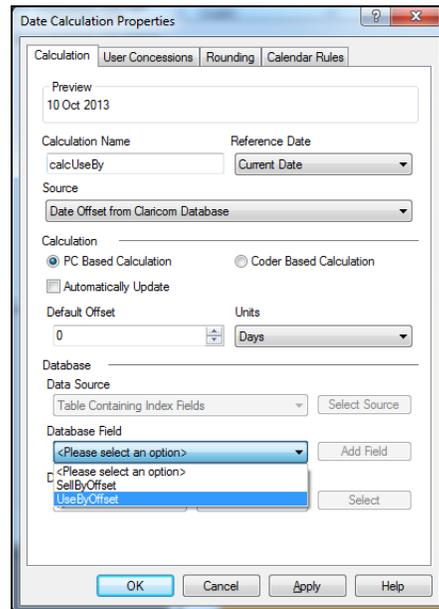

Figure 7-13: Date Calculation Properties
- 28 From the *Database Field* drop down list, select 'UseByOffset'. This is the name of the field in the database that we wish to link to. The date for each job will be calculated by adding the offset dates extracted from the database to the date specified in the *Reference date* drop down list (see Figure 7-13).